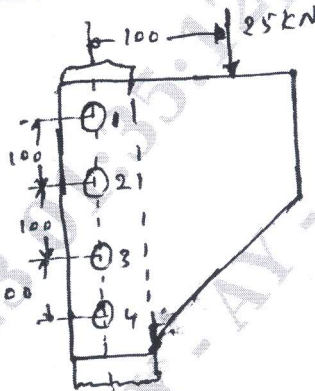

Fig.Q7(a)
- 7 a. A bracket attached to a vertical column by means of four identical rivets is subjected to an eccentric force of 25 kN as shown in Fig.Q7(a). Determine the diameter of rivets, if the permissible shear stress is  $60 \text{ N/mm}^2$ .